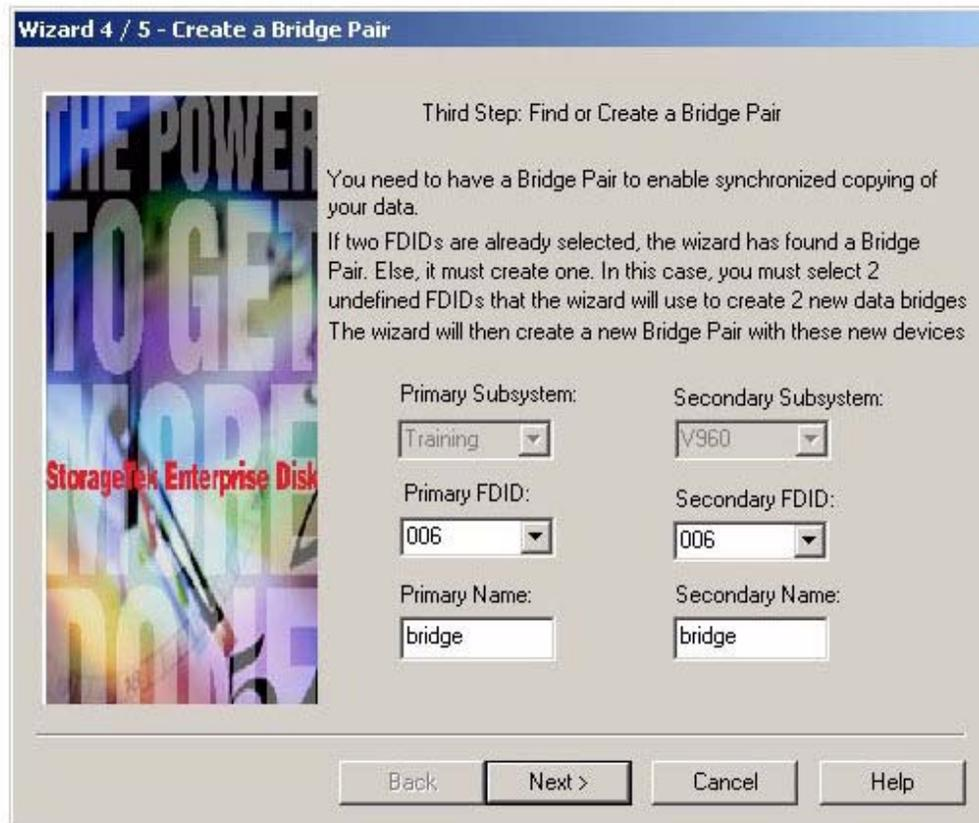

Figure 18 Bridge Pair FDID Selection
9. The dialogue box of Figure 18 appears. Select the FDID of the bridge pairs and name them. Here they are shown as being FDID of 006 named “bridge.”